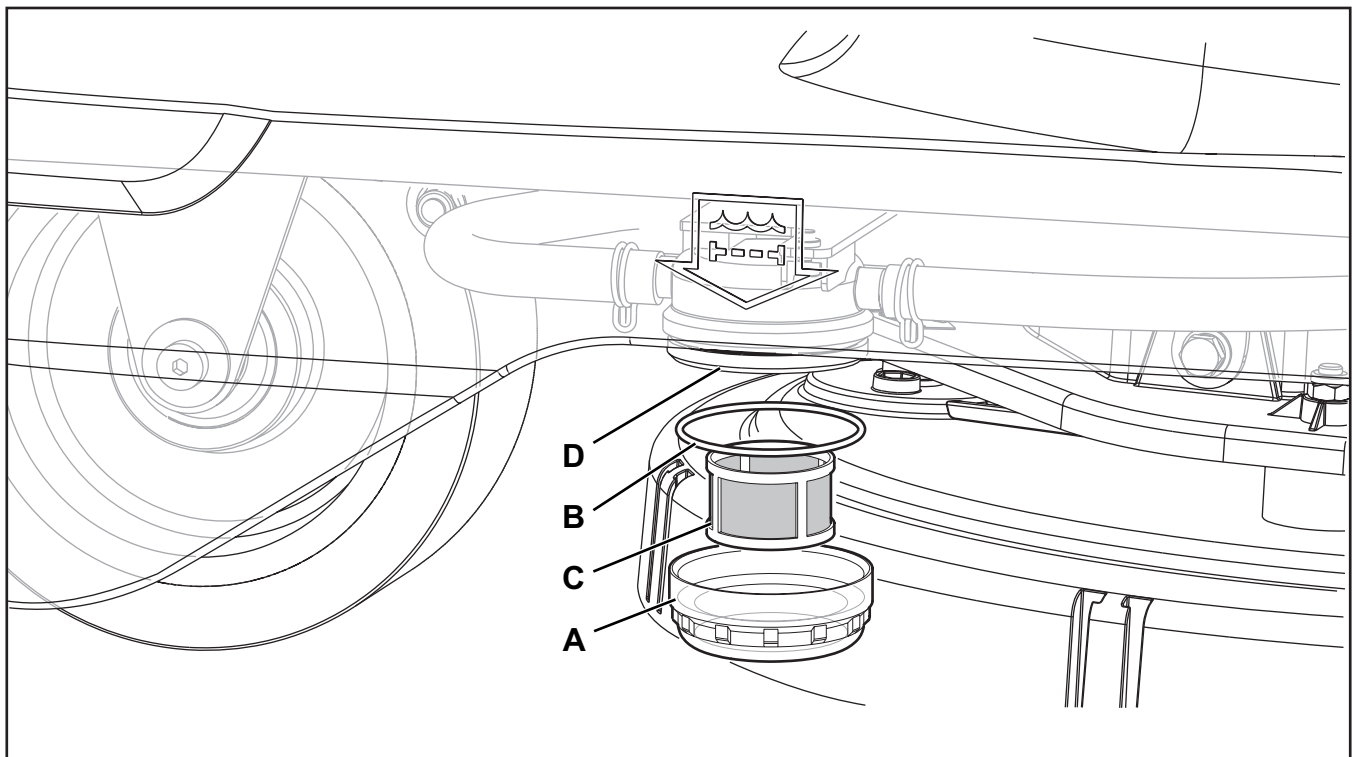

Figure 7
4. Remove the transparent cover (A, Figure 7), retrieve the gasket (B) and remove the filter strainer (C).
5. Wash and rinse them with water, then refit them carefully onto the filter support (D). Do not over tighten.